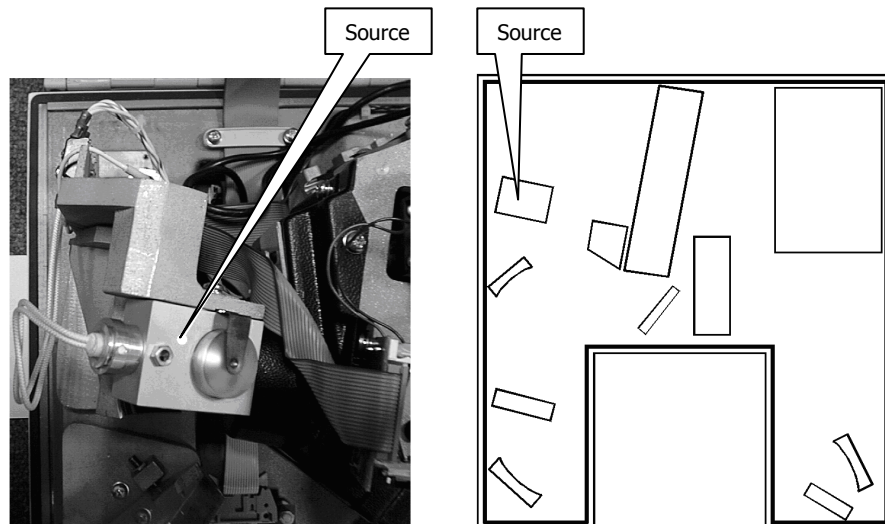

Figure 34 Source location
1. Open the main cover of the instrument as detailed on page 84 and identify the Source (Figure 34).